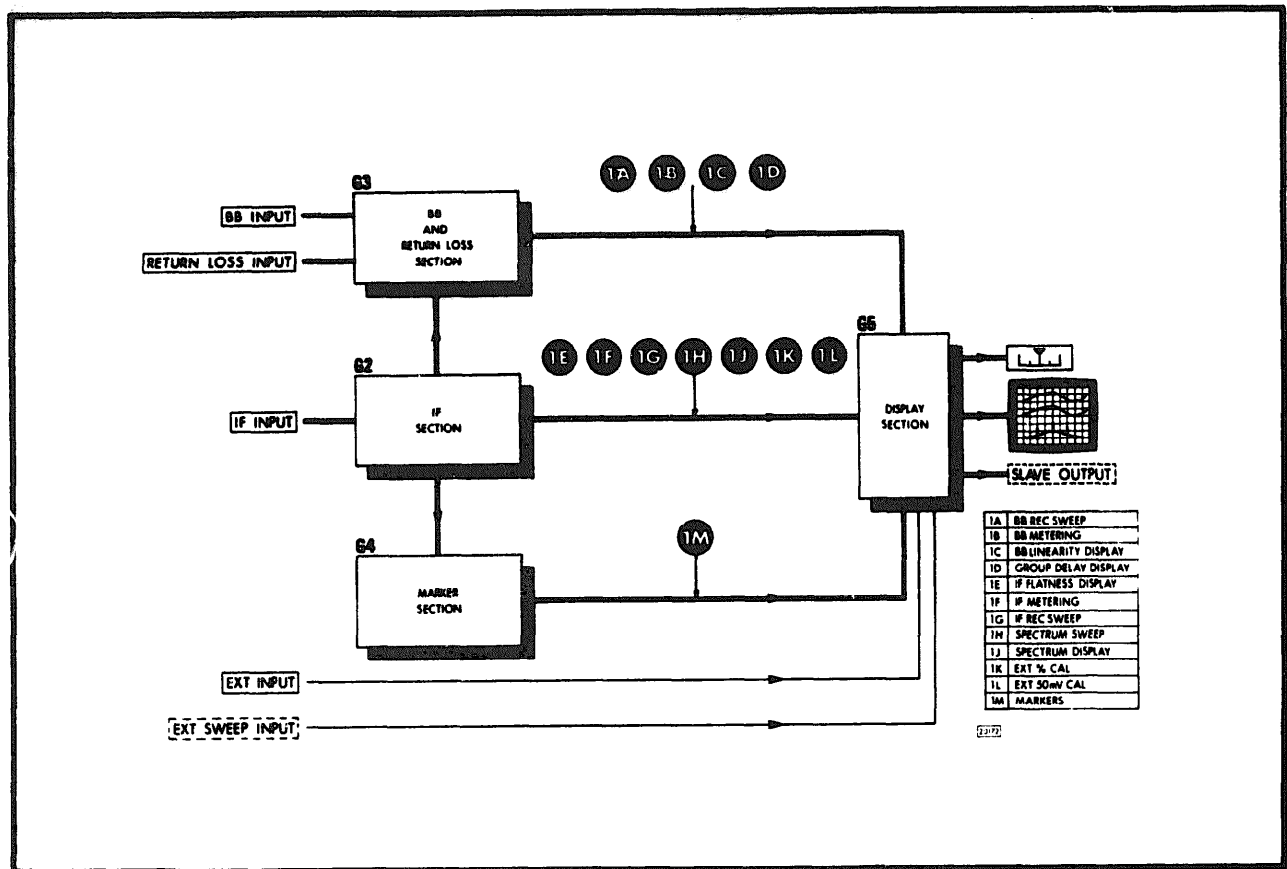

Figure G1-1 Simplified Block Diagram
**G11** A malfunction within the 3702B can be isolated to a particular service sheet by monitoring the signals at the test points shown in Figure G1-1 and the IF/BB RECEIVER FUNCTIONAL BLOCK DIAGRAM, which is contained in the envelope at the rear of this manual. To gain access to these points, the top and bottom covers must be removed from the instrument. The monitoring can be done using an hp 180A Oscilloscope via a 10:1 probe, and the results compared with the appropriate waveforms on Pages 5-10 through 5-40. Any discrepancy will indicate a fault at the relevant location.
G1-13 General Test Points, as shown on the simplified block diagram Figure G1-1 and listed in the accompanying table are given below. The test points are shown together with typical waveforms as displayed on a 180A Oscilloscope using a 10:1 probe, unless otherwise stated.